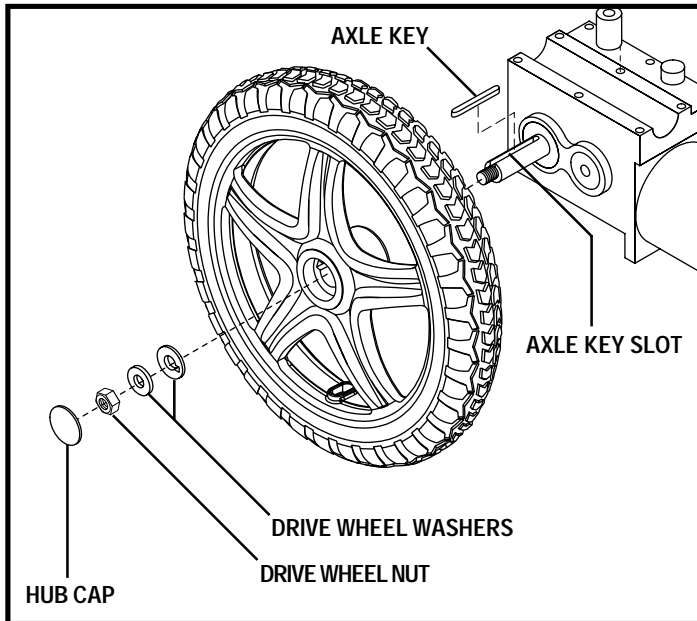

Figure 34. Drive Wheel Replacement
6. Remove the drive wheel nut and washers from wheel axle. See figure 34.